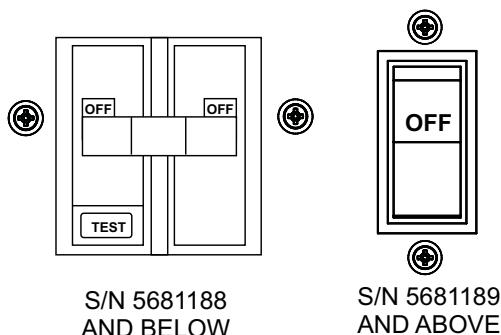

Figure 32. Main Circuit Breaker (OFF)
1. Place **main** circuit breaker (Figure 32) in the OFF position.